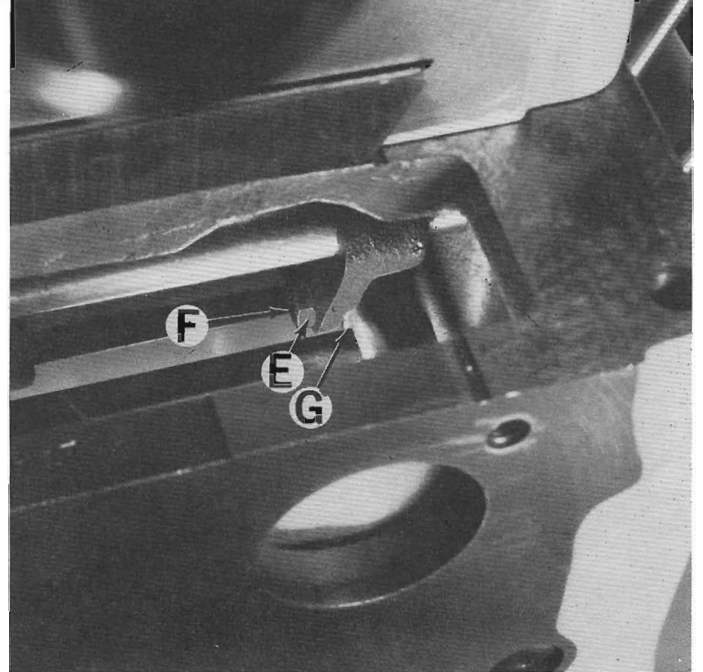

Figure 57 — Reverse Lever Shaft
4. Loosen nut "E", Figure 57, which is accessible through bed opening. Remove screw "F" and block "G".
6. Replace block "G", Figure 57, screw "F" and nut "E".